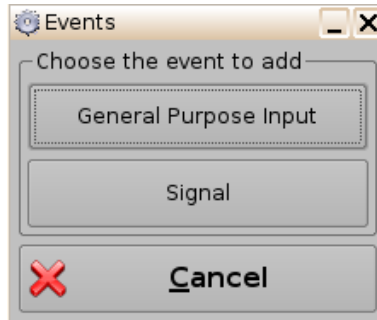

Figure 197: Events Window
- To connect the selected Trigger Cue to a GPI event, click the General Purpose Input button of the Events window (Figure 197).
- To connect the selected Trigger Cue to another signal, click the Signal button of the Events window (Figure 197).
- Click the Connect to an Event button from Macro Editor's Trigger Cue tab. The Events window will appear (Figure 197).